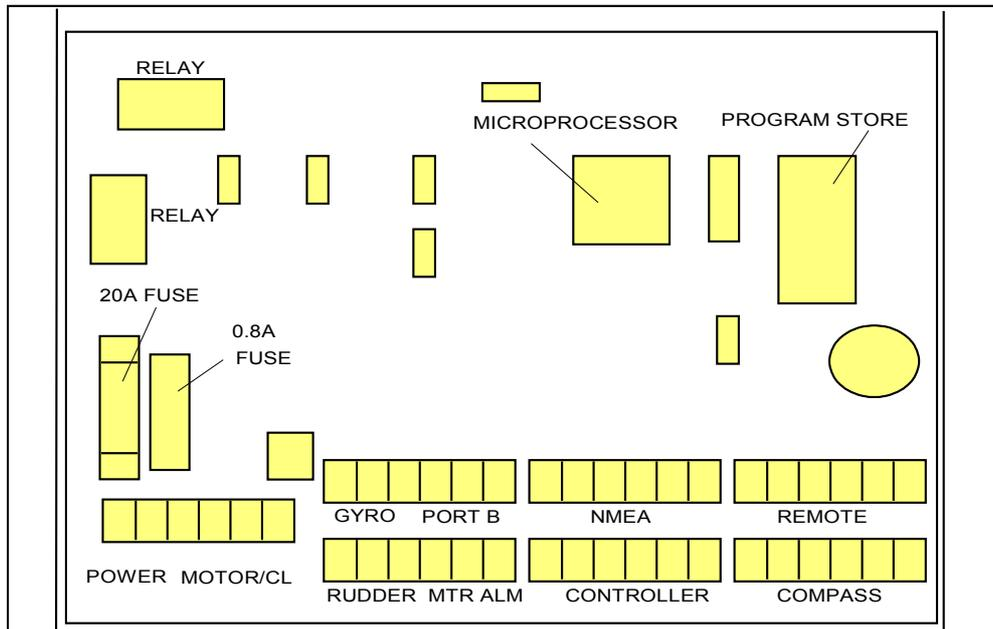

Figure 3.1 Layout of S81.01 Junction Box components and connectors.
Before commencing the wiring, isolate the vessel's power bus from the power supply. Note that all connections to the Junction Box, except for motor and power, are made to removable plugs. Figs 3.1 show the location of the sockets and principal components for the TM81.01.
6. Using 20 amp cable, connect the two pump wires to the Motor terminals in the Junction Box (see Figs 3.1 or 3.2), noting that no connection is made to the clutch drive in this type of installation. The polarity of the connection is not important.